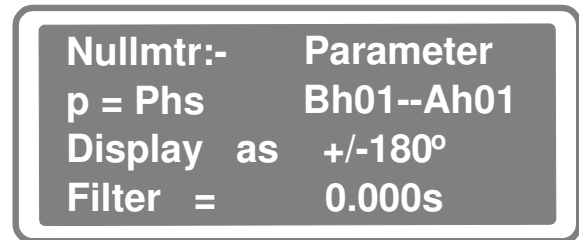

Figure 13. Nullmeter Sample Display
1. Press the **NULLMETER SELECT** key. One of five Nullmeter parameter displays will come up. See Figure 13.